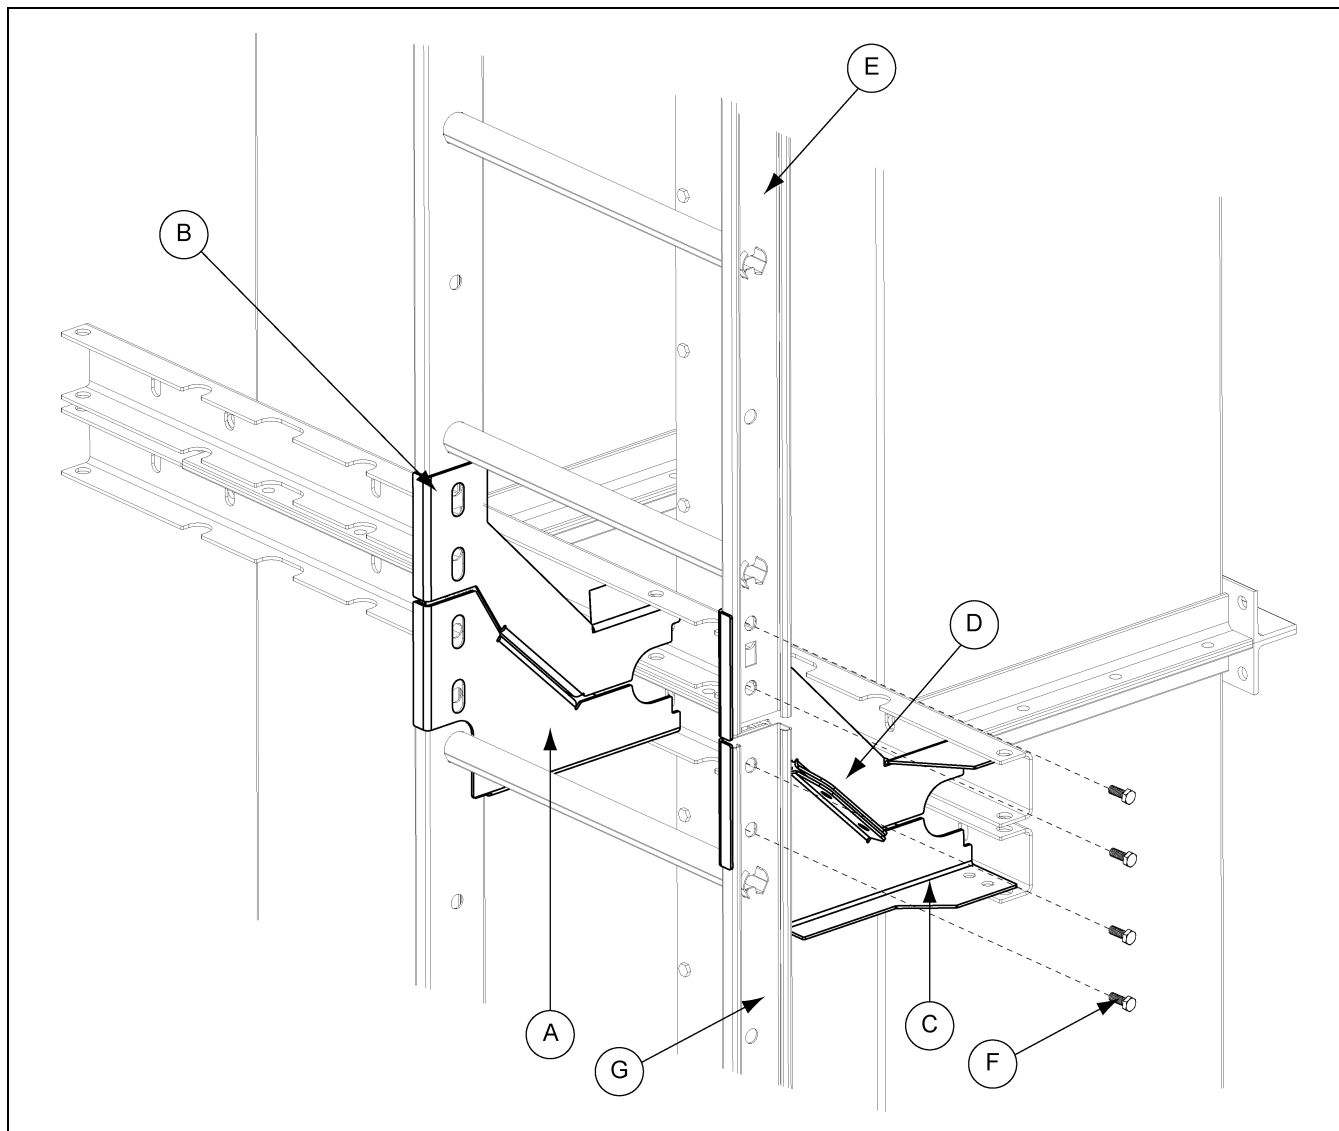

Figure 6Q
1. Attach ladder sections to the ladder brackets using 1/2" x 1" hex bolts (S-7935). (See Figure 6Q.)